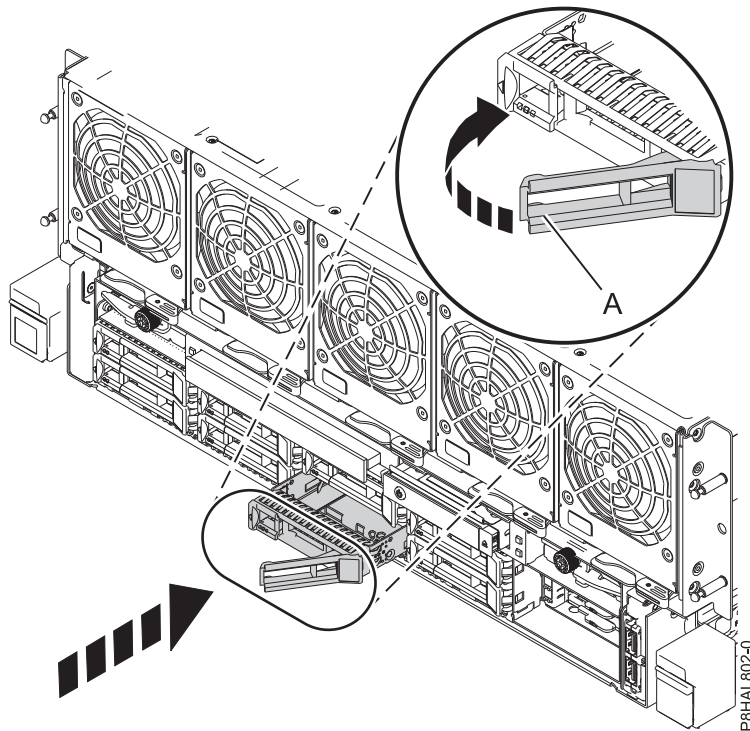

Figure 24. Replacing a disk drive in an 8408-44E or 8408-E8E system
3. Unlock the drive bay handle (A) by pressing it and pulling it out toward you. If the handle is not all the way out, the drive does not slide into the system. See Figure 24 on page 37.
7. When the identify LED turns on solid, slide the drive all the way into the system, and push the drive carrier handle (A) in until it locks, as shown in the following figure.